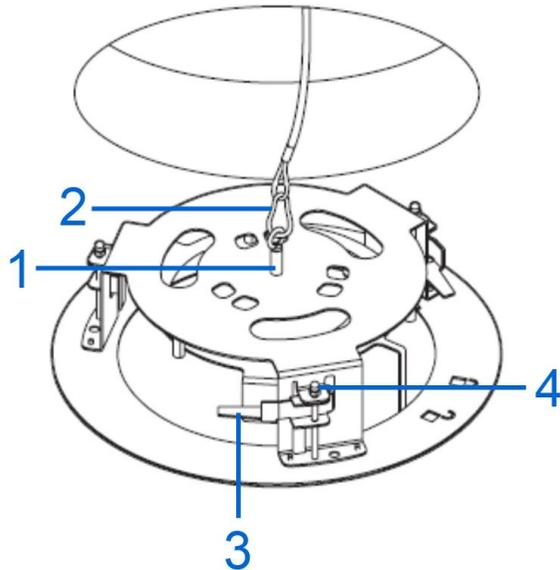

Figure 3
2. Attach one end of the safety lanyard to a secure structure or object in the ceiling and screw in the eye bolt (1) (Figure 3) to the top of the mount.
3. Attach the other end of the safety lanyard (2) (Figure 3) to the eye-bolt on the mount.
4. Pull the 'wings-tabs' (3) (Figure 3) out to tighten the mount against the ceiling.
Note: You can rotate the screw (4) (Figure 3) to adjust the 'wings-tabs' up or down.